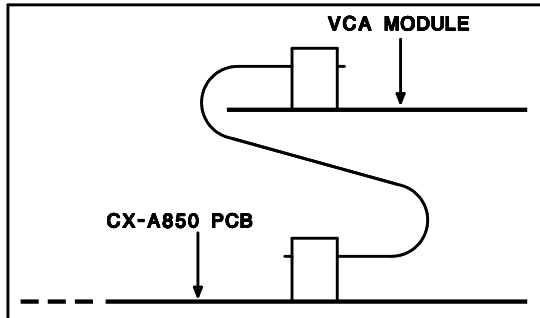

Fig 9
6. Push the 10-way VCA plug onto the PCB connector, aligned so the cable enters it from the rear of the chassis (See Fig 9) check there is contact with all 10 pins.